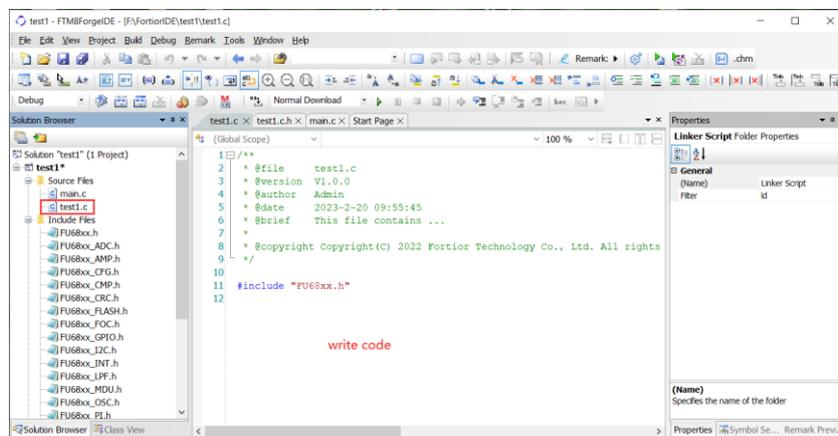

Figure 2-12
Step 6: Click "OK". The creation result is shown in Figure 2-12. The newly created "test. c" file appears in "Source Files".